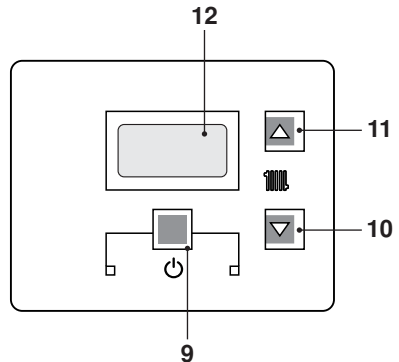

Fig. 2.5
- Press the key 9 for 2 seconds until '11111' symbol appears on the display Fig. 2.5.
The output temperature of c.h. water can be adjusted by acting on keys 10 (reduce) and 11 (increase) (Fig. 2.5) from a minimum of about 25°C to a maximum of about 85°C.
However, if the ambient temperature is not comfortable, the flow temperature of the heating plant can be increased or reduced by $\pm 15^{\circ}\text{C}$ by acting on keys 10(reduce) and 11(increase) (Fig. 2.5).